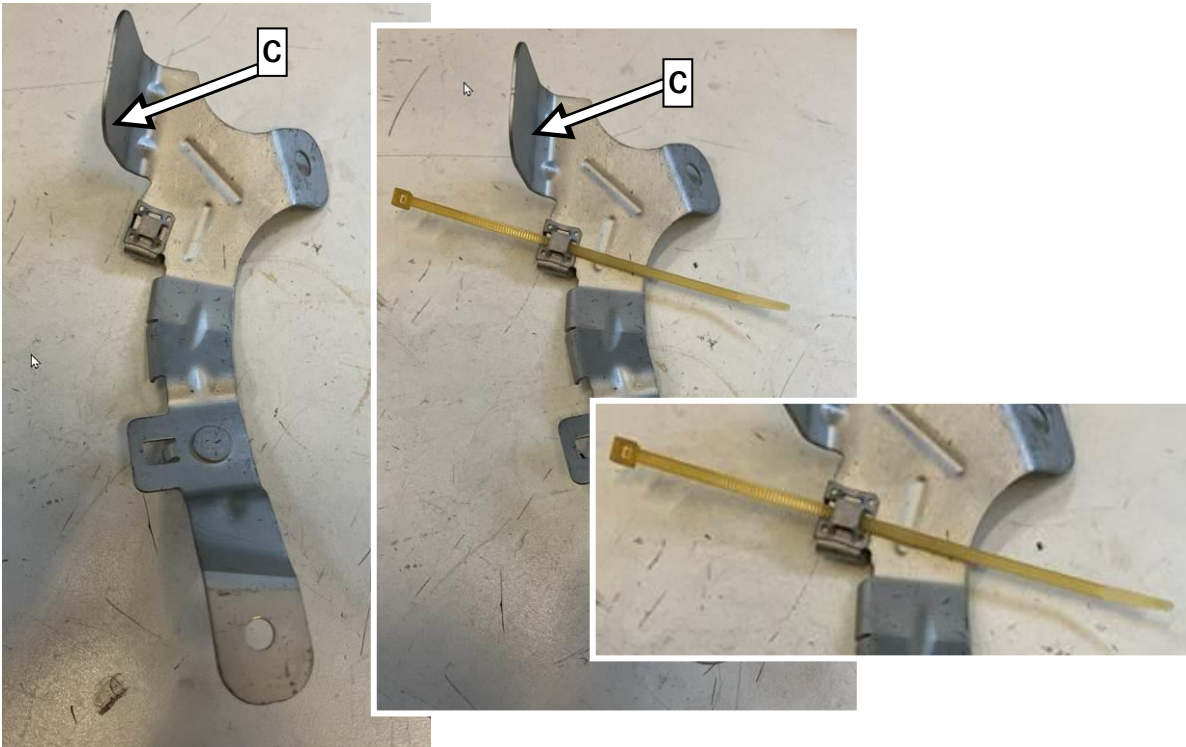

Figure 4
3. Install new holder (**Figure 4**) with preassembled cable tie.
i The wiring harness now runs behind the tab (**Figure 4 and 5, C**).